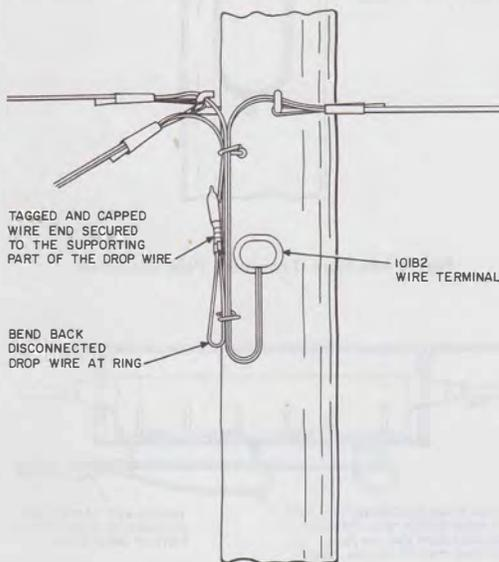

Fig. 7—101-Type Wire Terminal, Pole Mounted
8.01 *Party Line Taps in Drop Wire Runs Along a Lead:* Pull the free end of wire out of the wire terminal, tag and cap it and secure to the supporting part of the drop as shown in Fig. 7.